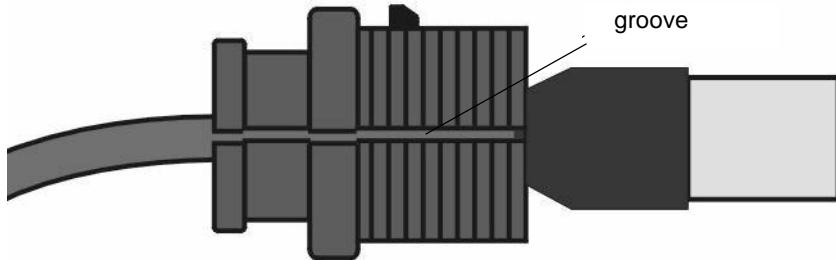

Figure 2-8: Sealing Cap
- 1 The rubber sealing cap (supplied with the SU-ODU) has a special groove allowing to insert an ethernet cable with an already assembled RJ-45 connector through the cap. To expose the groove, lightly squeeze the cap (see Figure 2-8). Carefully insert the end of the 55 cm category 5E Ethernet cable without the service box through the groove.